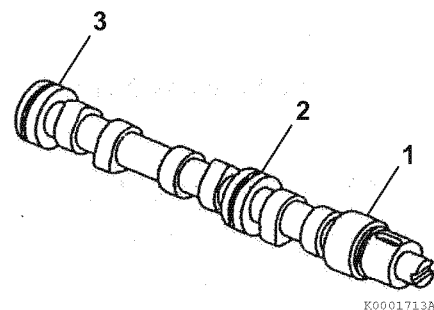

Figure 6-126
4. Measure the diameter of the gear end (1, **Figure 6-126**), intermediate (2, **Figure 6-126**), and flywheel end (3, **Figure 6-126**) bearing journals. See *Camshaft on page 6-8 for specifications*.